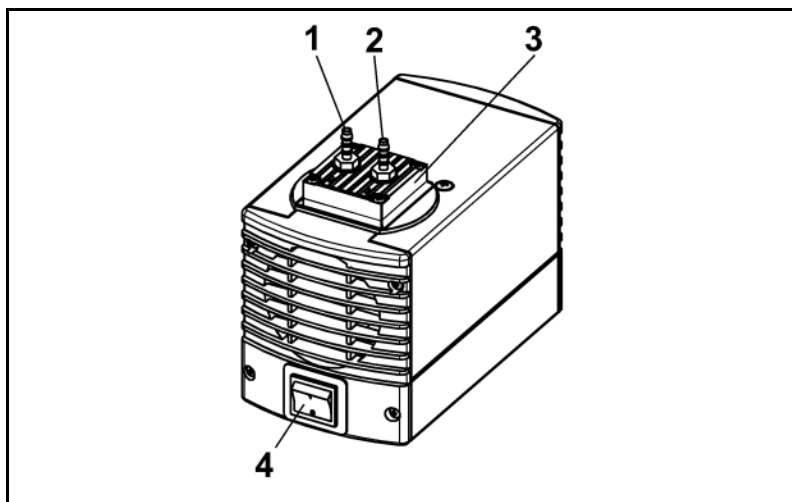

Fig. 2
- ➔ Switch on pump with mains switch (see fig. 2)
- ➔ Switch off pump with mains switch (see fig. 2)